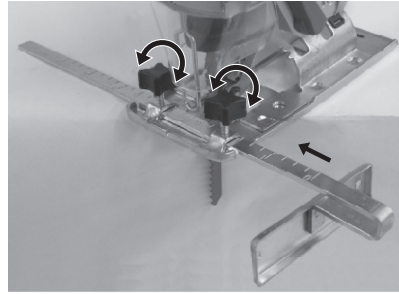

Fig. 8
7.7 Parallel saw guide (Fig. 8)